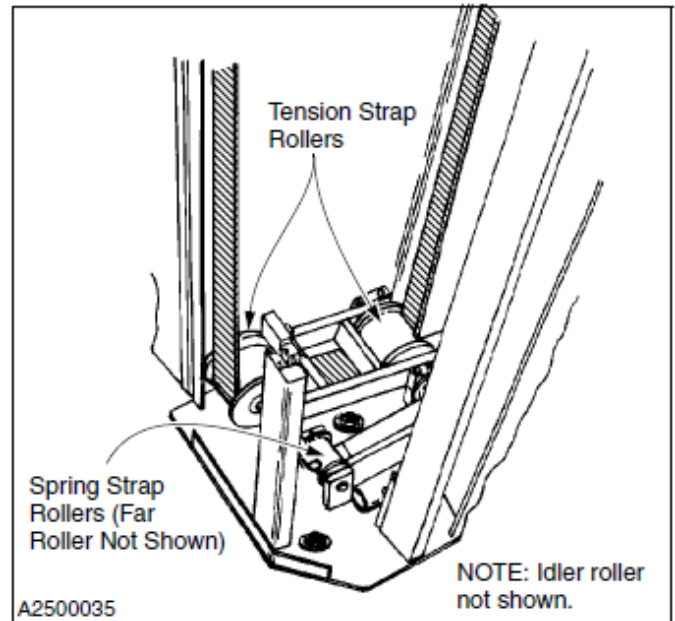

Figure 39
6. **Tension, Spring, and Idler Rollers:** The lower end of each tension strap and both spring straps each travel on a pair of rollers located in the bottom of the side columns. These rollers spin on shafts that must be lubricated with a good-quality grade of heavy lubricating oil. (See Figure 39)